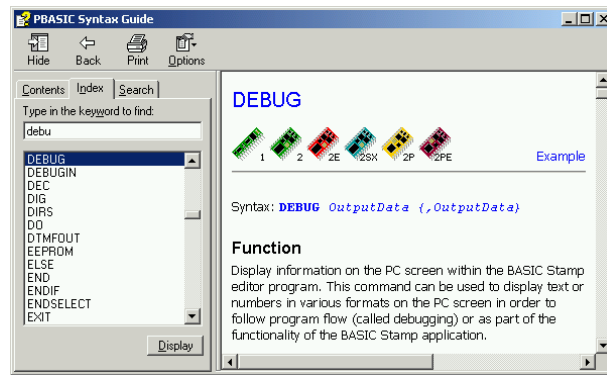

Figure 1-46
- ✓ Type **DEBUG** in the field labeled *Type in the keyword to find:* (Figure 1-46).